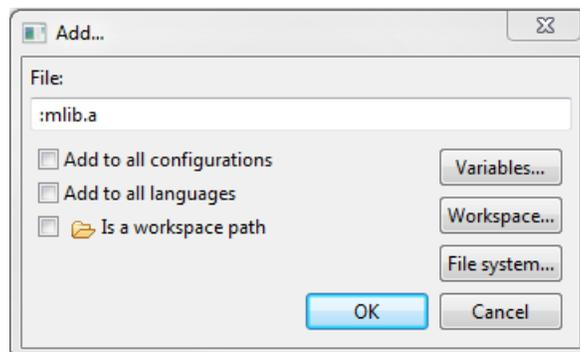

Figure 1-8. Library file inclusion
17. Type the following into the File text box (see Figure 1-8): :mlib.a